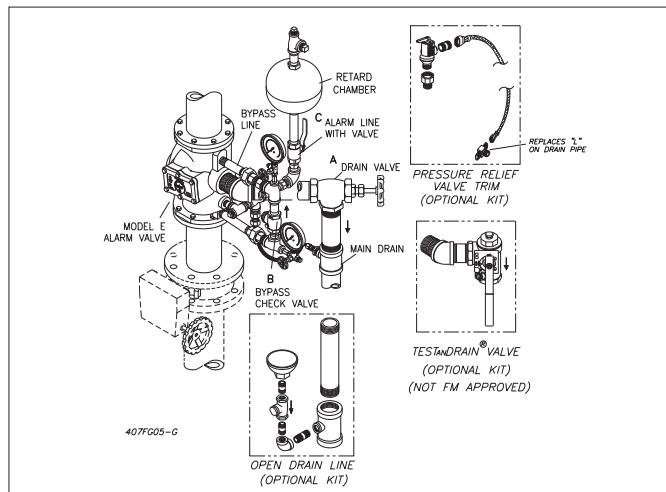

Fig. 3
- The By-Pass connection with Check Valve (Figure 3 & 4) allows pressure surges from the supply to by-pass the Alarm Valve Clapper. An excess system pressure is thus created which steadies the Clapper. Should a heavy surge unseat the Clapper and permit water to flow into the alarm line, the Retard Chamber then comes into action.
The E3 trim sets for the Reliable Model E Alarm Valve (Figs. 3 & 4) are arranged for rapid, easy and compact attachment, and serve as connection points to Reliable alarm and other devices. They also act as a means for testing the system to operate. The Model E alarm valves are available in two trims and may be installed in the vertical or horizontal position in the main supply to the wet pipe system:
Optional Drain Line Kit required (see Figs. 3 & 4). This trim set is used where water supply pressures vary. An open drip cup is provided to drain the retard chamber and the mechanical sprinkler alarm line. This drain connection should be piped separately from the 2" main drain.
- The trim set permits both vertical (Fig. 3) and horizontal (Fig. 4) installations.
- A Test^{AND}Drain[®] valve segment is optional, to be purchased separately, as a replacement to the Drain valve (see optional Kit in Figs. 3 & 4).
- All trim sets can be fitted with an optional Pressure Relief Trim Kit (see optional kit in Figs. 3 & 4) to relieve pressures above 175 psi in the sprinkler system, as required by NFPA 13, 3-1.2.